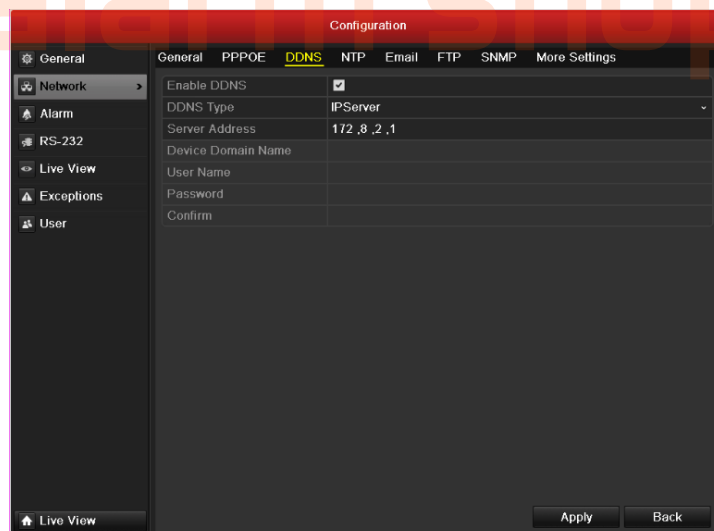

Figure 9.4 IPServer Settings Interface
2. Select the **DDNS** tab to enter the DDNS Settings interface, as shown in Figure 9.4.